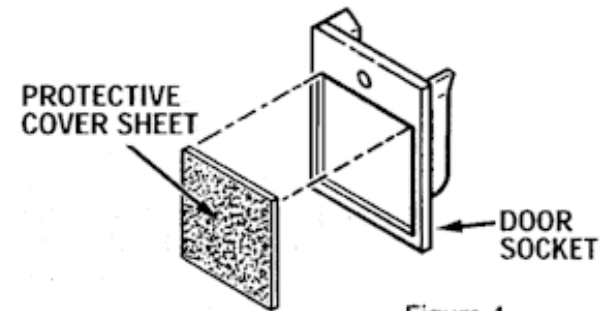

Figure 4
1. Remove the four tap pads from backing sheet and mount pads in recessed area of door socket. (Do not remove protective cover sheet from tape at this time. See figure 4.)